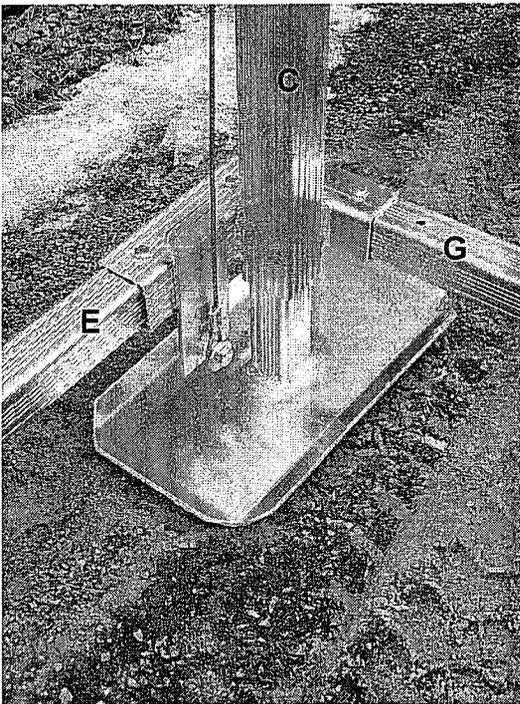

FIG. 23
3. Repeat on remaining corner posts. (See FIG. 23 & 24.)